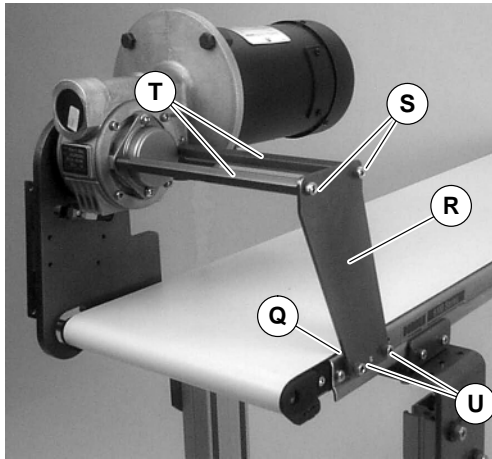

Figure 17
4. Remove screws (S & U of Figure 17) and remove support plate (R) and spacer (Q). Remove hex posts (T).